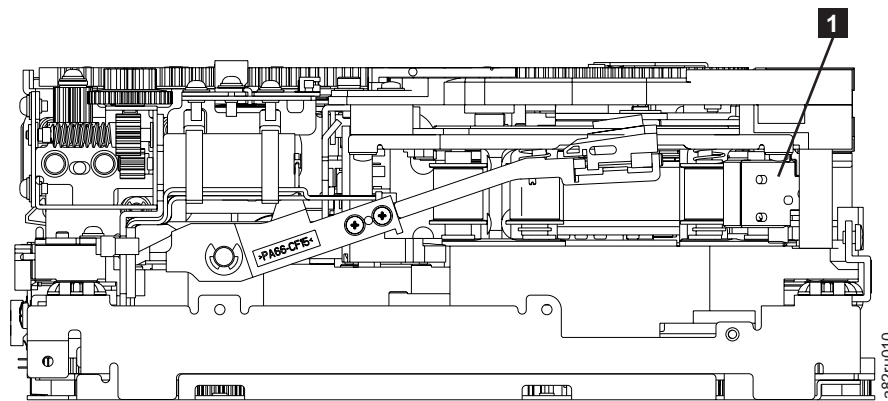

Figure 6-4. Leader Block Assembly (LBA)
7. Rotate the threader motor worm gear (**4** in Figure 6-3 on page 6-6) to turn the threader mechanism gear (**6** in Figure 6-3 on page 6-6) counterclockwise. This moves the LBA out of the cartridge and past the read/write head. Stop this rotation when the LBA is near the tape guide roller nearest the rear of the drive (**1** in Figure 6-4).